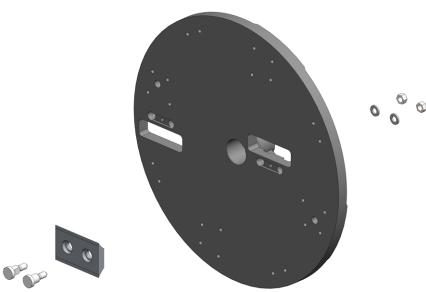

Figure 25 - Blade Mounting
14. Fit the blade to the rotor using the retaining bolts, washers and Nyloc nuts. The use of genuine Timberwolf blades and bolts is recommended (Figure 25).